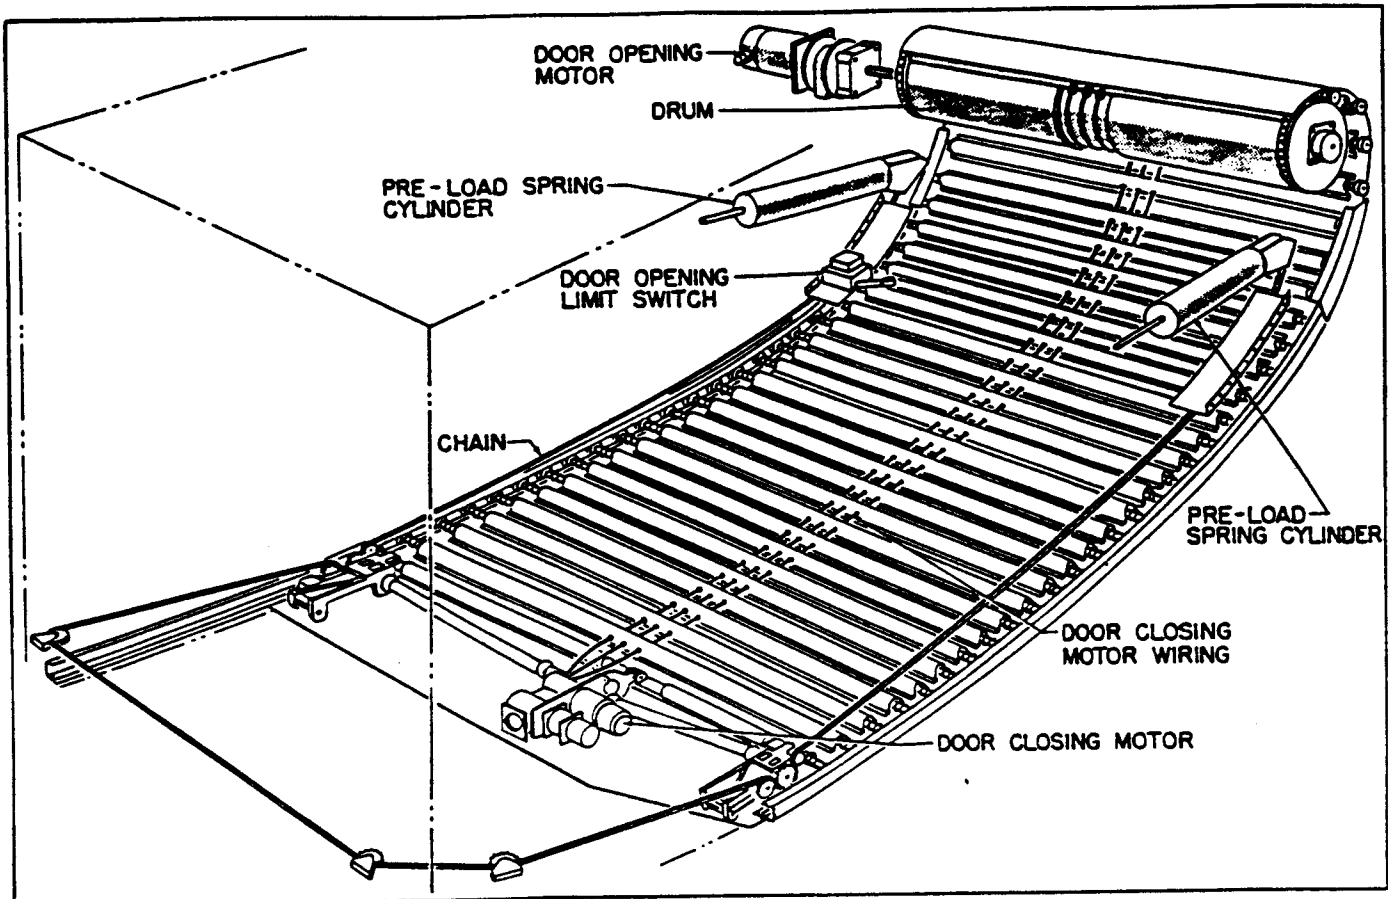

Figure 1. Bomb Door Operating Mechanism
- (1) Bomb bay door controls.
- (2) Bomb indicator lights.
- (3) Normal bomb release (selective and train).
- (4) Emergency salvo release (bombs safe).
- (5) Bomb bay No. 4 emergency salvo.
b. BOMB BAY DOOR CONTROLS. (See figure 1.)
(1) DESCRIPTION.- The bomb door mechanism is essentially the same for each of the eight bomb bays. The only exception is bomb bay No. 4 which has additional controls to jettison its bombs and allow emergency exit of the crew. A motor and drum assembly is used to open each door, and a motor and sprocket chain mechanism is used to close it. Control is centered in the bombardier's switch panel, but the doors can also be opened for emergency jettison of the bombs by the pilot or crew members as well as the bombardier.
(2) OPERATION.- The door-opening-motor, located at the aft end of the bomb bay, rolls the flexible door on a drum when the two-way switch on the bombardier's switch panel is placed in the "OPEN" position. Moving the switch to the "CLOSE" position activates the door closing motor, which is attached to the forward end of the door, and the door is pulled shut by sprockets attached to the motor and engaging the roller chain stretched the length of the bomb bay.